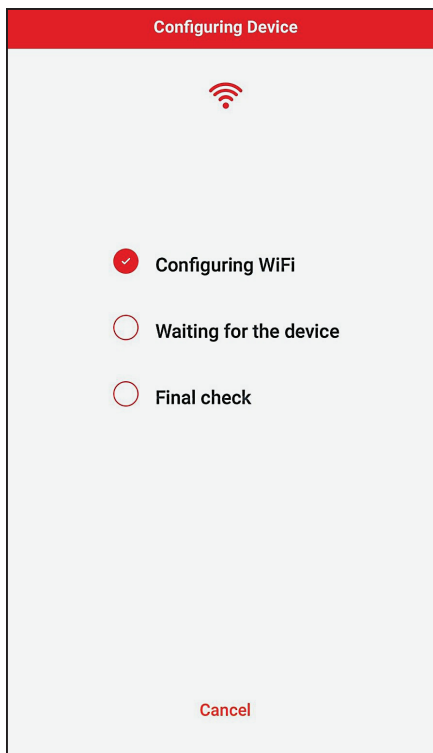

Figure 27. Configuring Device
9. The Raymote mobile app will provide the Wi-Fi network credentials to your unit. See **Figure 27**.